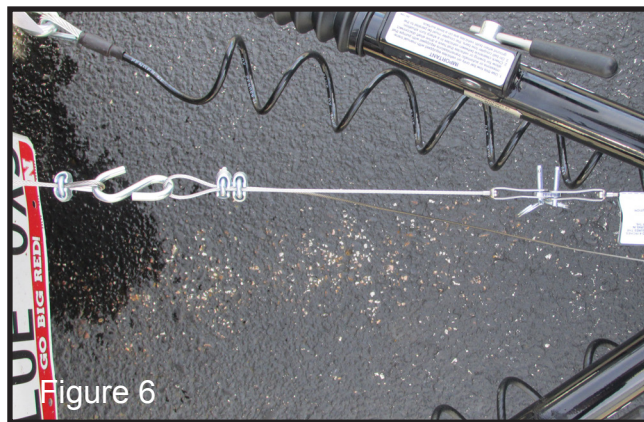

Figure 6
6. Hook the cable fork end of the connector cable assembly to the cable fork on the AutoStop™ receiver cable assembly with the detent pin. Run the loose end of the connector cable thru the closed end of the s-hook, double it back on itself and loosely secure it with the two cable clamps. Before tightening the clamps adjust the cable length so there is about 4 inches of vertical play in the cable before the towed vehicle's braking lights come on. (Figure 6)